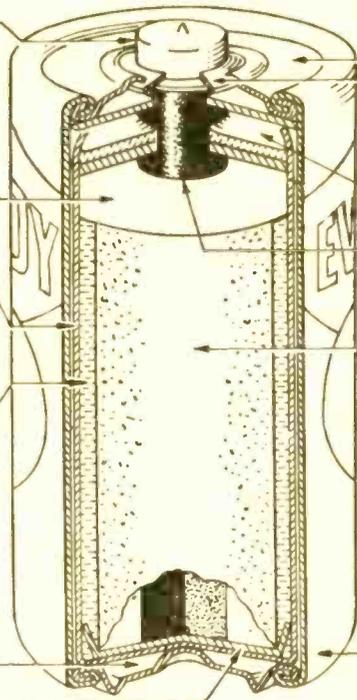

Fig. 2. "Cut away" detail diagram of a typical flashlight dry cell.
**The Modern Day Cell.** Earlier, it was mentioned that Dr. Gassner developed the dry cell as we know it today. Figure 2 shows a "cut away" sketch of a flashlight cell which is typical of the hundreds of thousands of such units now in service. The zinc container serves as the cell's negative electrode, with a